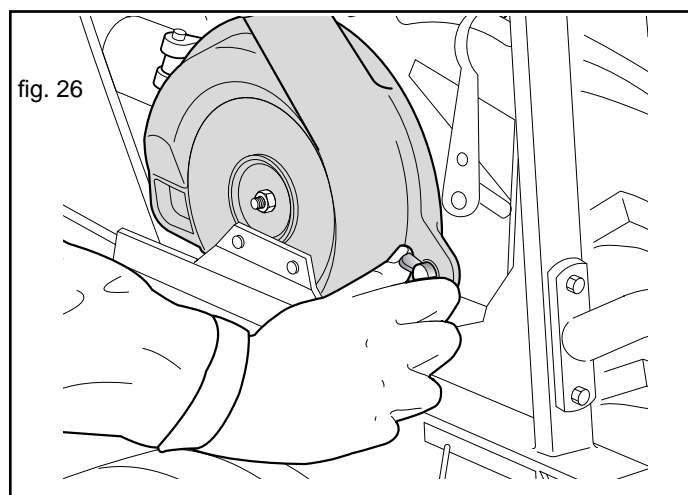

fig. 26
- Hand-tighten only the winged nut that closes the cover (Fig. 26).
- 1) Unscrew and remove the wing nut (Fig. 26);
- 6) Close the cover and screw the wing nut back on (Fig. 26).